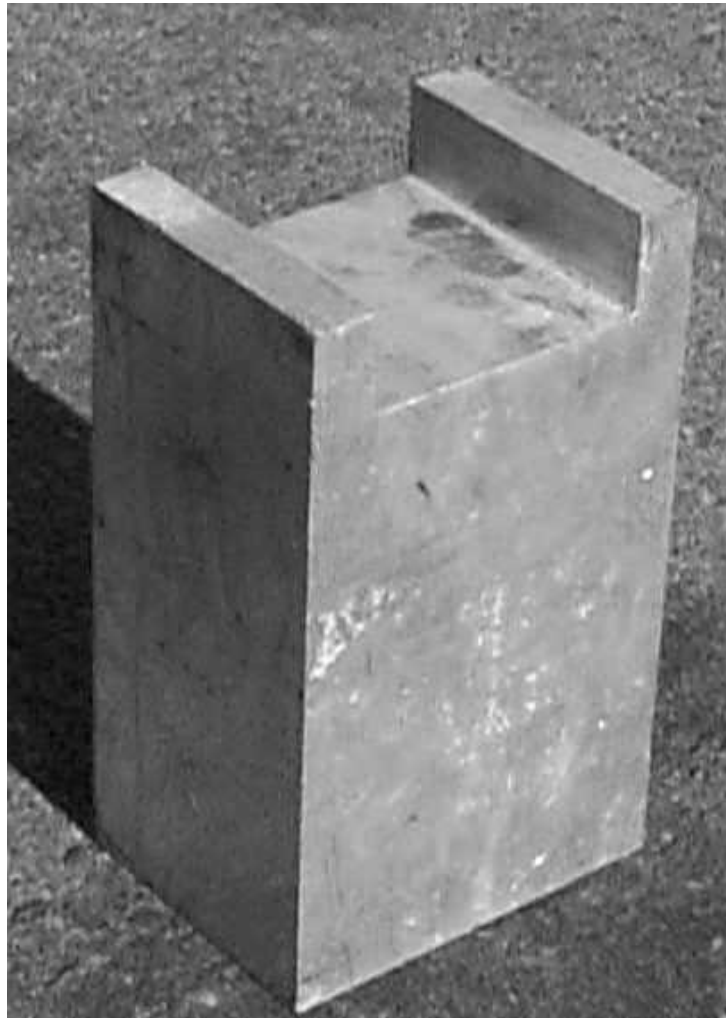

Figure 1 – Spacer Block
5. **Items Affected.** This modification alters the Block, Spacer, Aluminium Alloy, NSN 2590-66-140-8036 (shown at Figure 1).